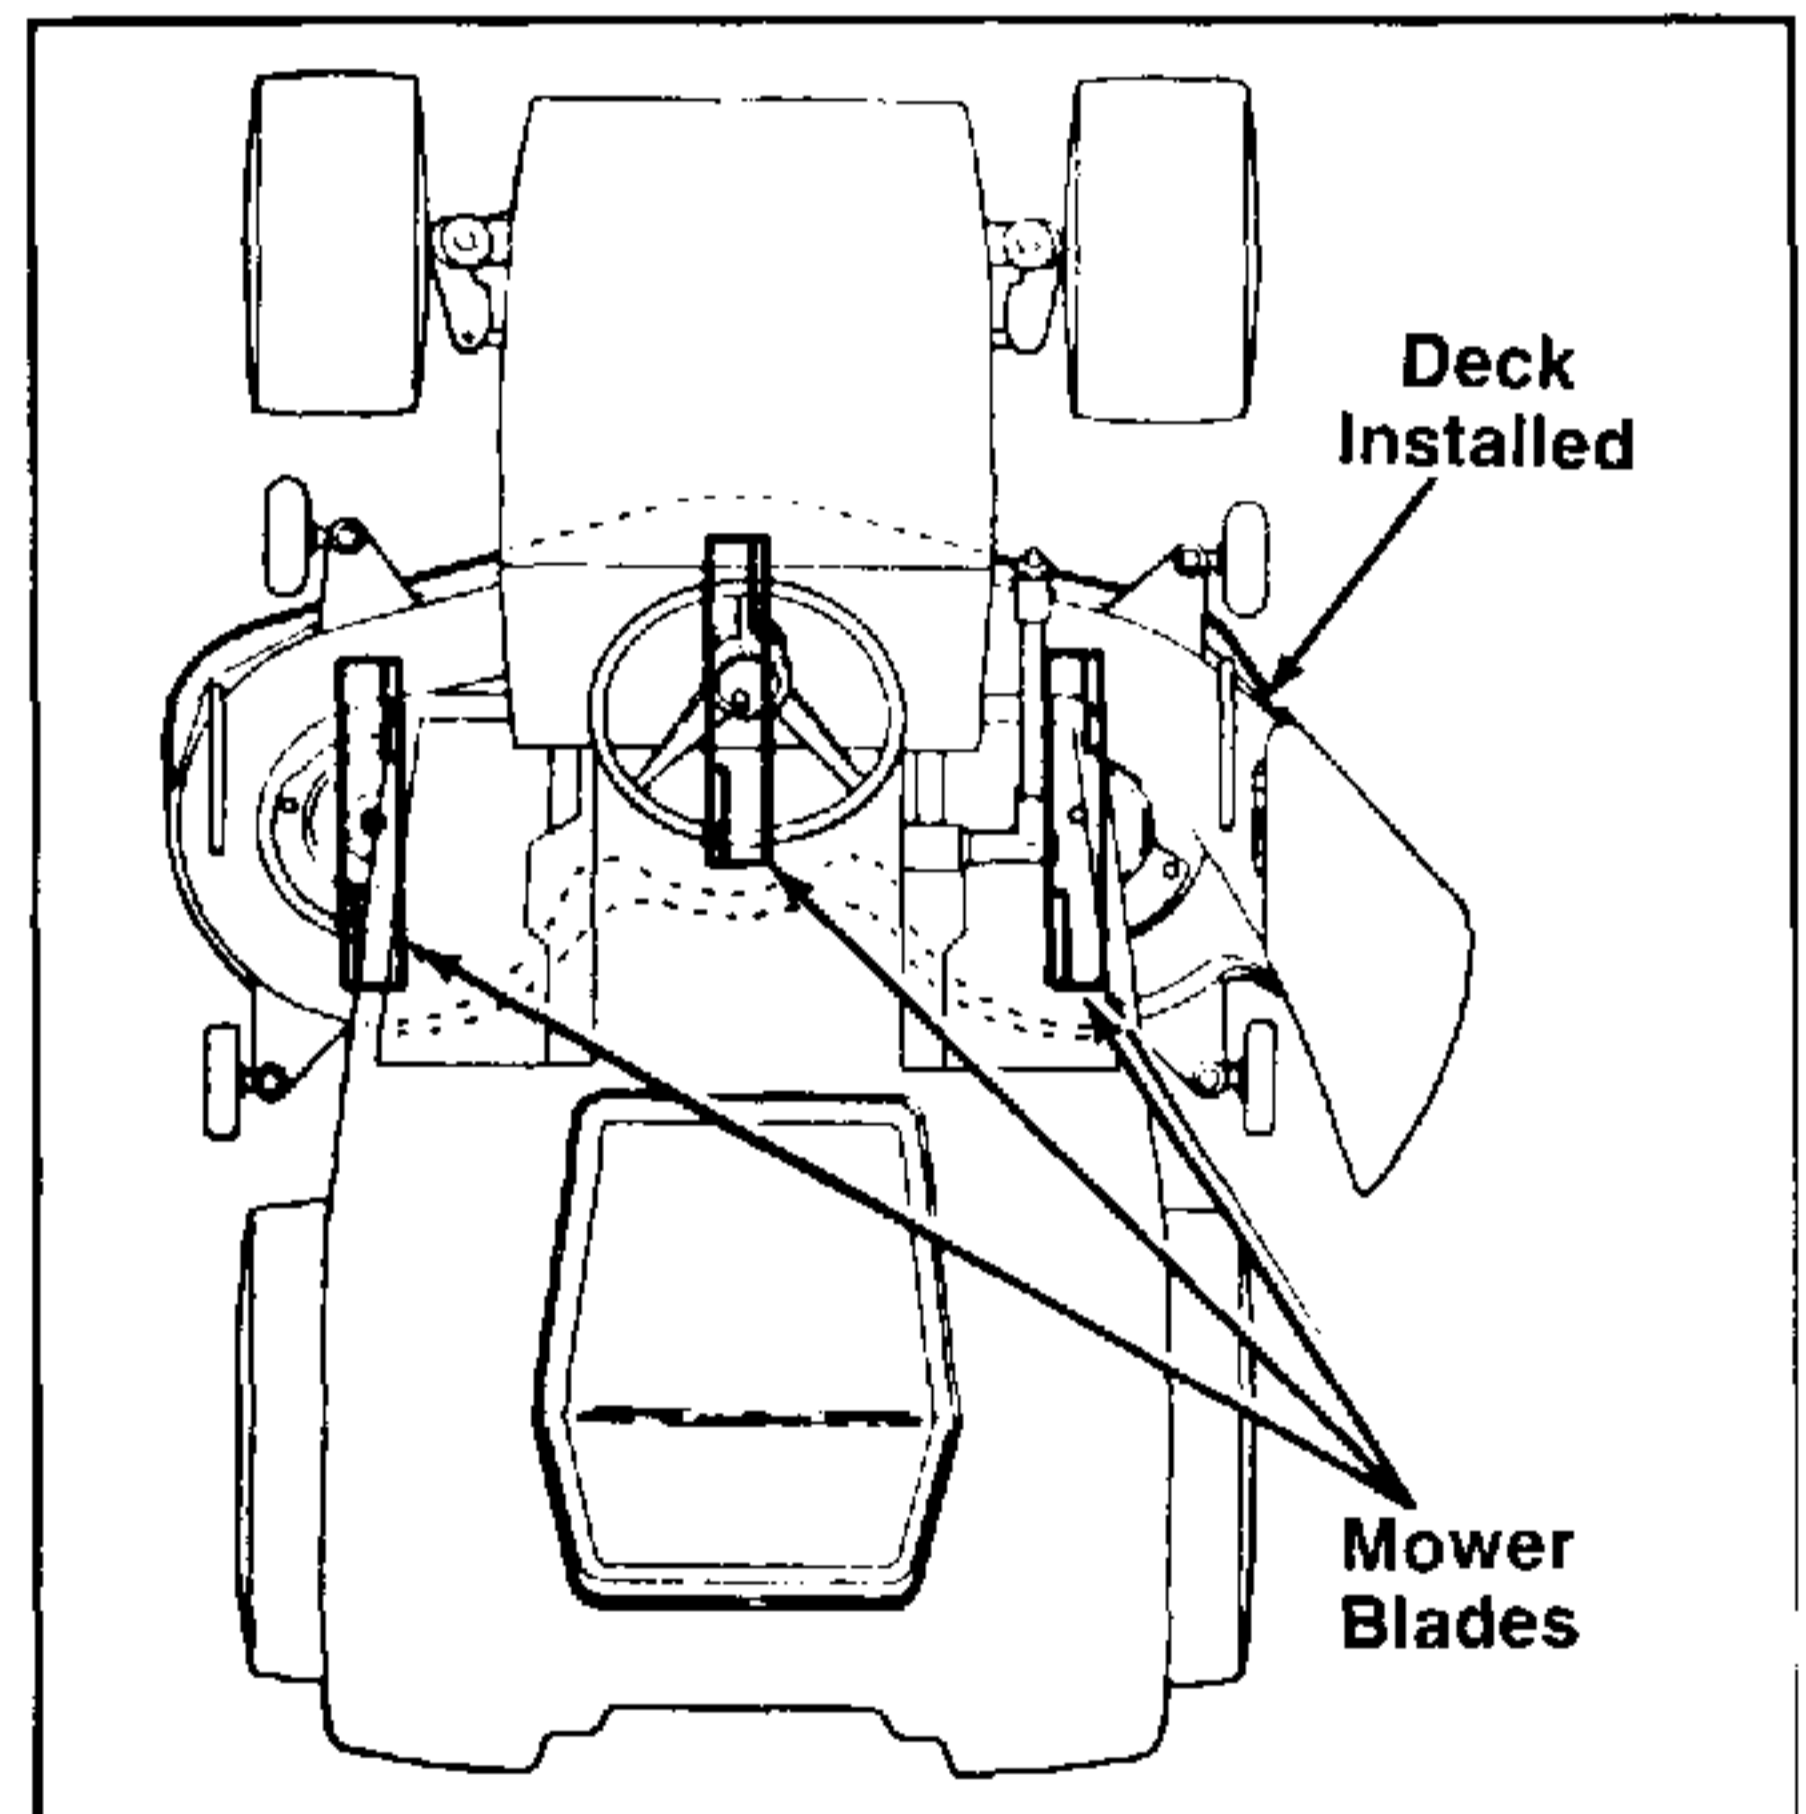

FIGURE 18.
4. Position the right and left outside mower blades so that the ends of each blade face the front and rear of the tractor. Refer to figure 18.